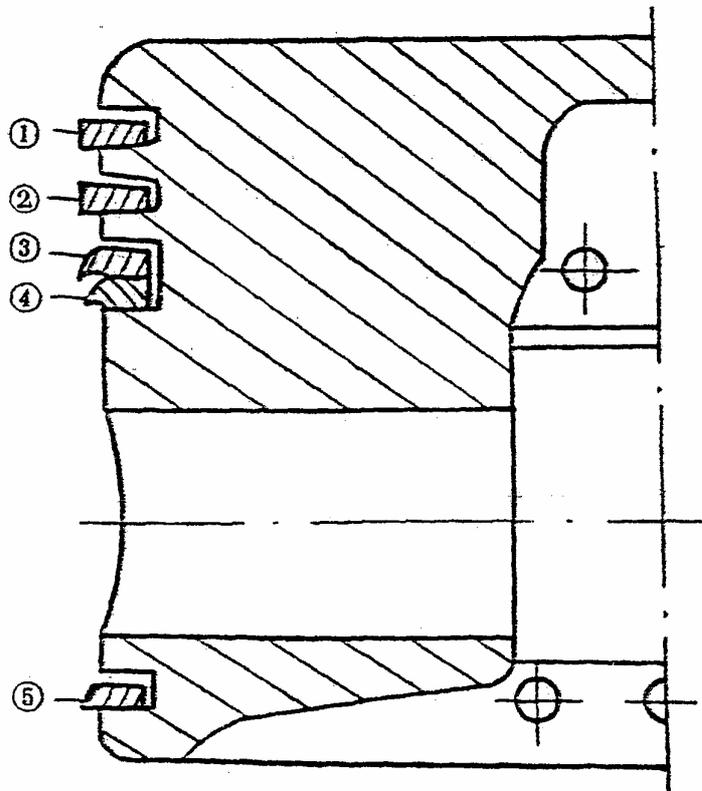

Fig. 15 Installation of piston rings
3. Installation of piston ring: in the first and the second piston ring groove, install trapezoid chrome plated air sealing piston ring: in the third groove, assemble two sloted oil wiping piston rings; in the fourth groove, mount a conic oil wiping piston ring, its conic crown (stamped a letter “上”) should face against top part (Fig. 15).